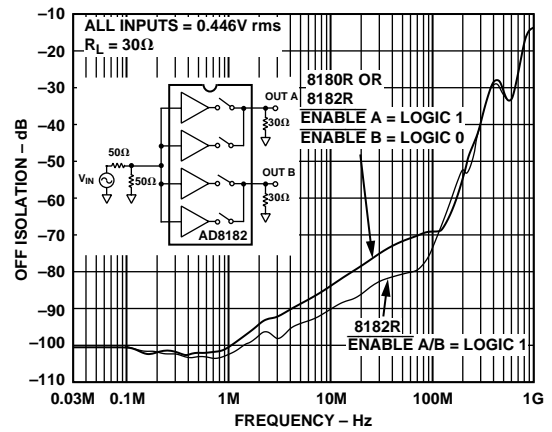

Figure 14. "OFF" Isolation vs. Frequency
- ⁷Mux is disabled (i.e., ENABLE = Logic 1) and all inputs are driven simultaneously with V_{IN} = 0.446 V rms. Output is monitored at f = 5 and 30 MHz. R_L = 30 Ω to simulate R_{ON} of one enabled mux within a system (see Figure 14). In this mode the output impedance is very high (typ 10 MΩ), and the signal couples across the package; the load impedance determines the crosstalk.